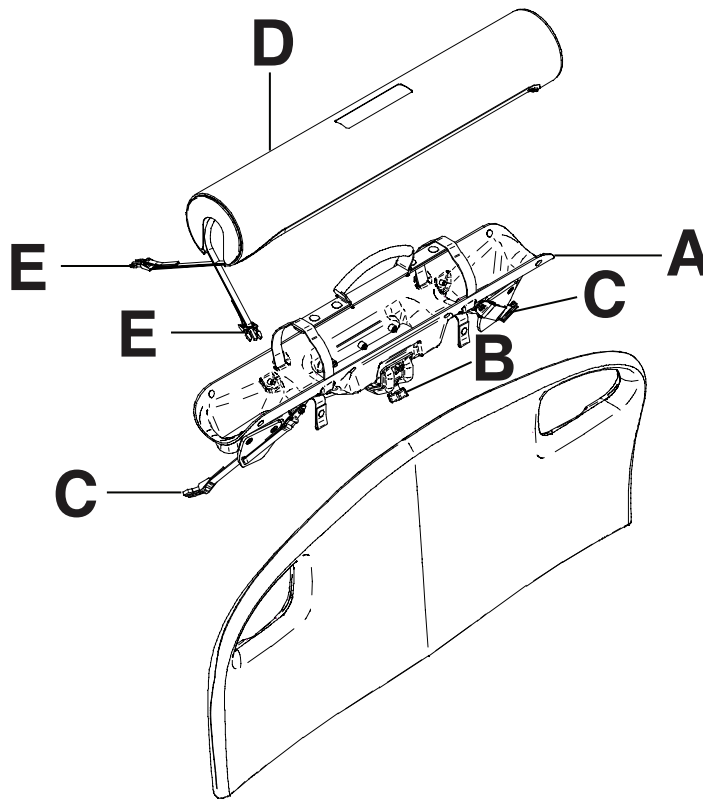

Figure 133: Right fit oxygen bottle holder
1. Place the oxygen bottle holder on top of the headboard (A) (Figure 133 on page 112).
2. Screw on the oxygen bottle holder clasp onto the headboard (B) (Figure 133 on page 112) to secure the bottle holder to the product.
3. Route the bottom straps (C) through the headboard handles (Figure 133 on page 112).
6. Place the oxygen bottle holder cover on top of the oxygen bottle (D) (Figure 133 on page 112).
7. Fasten the oxygen bottle holder cover straps together (E) (Figure 133 on page 112).